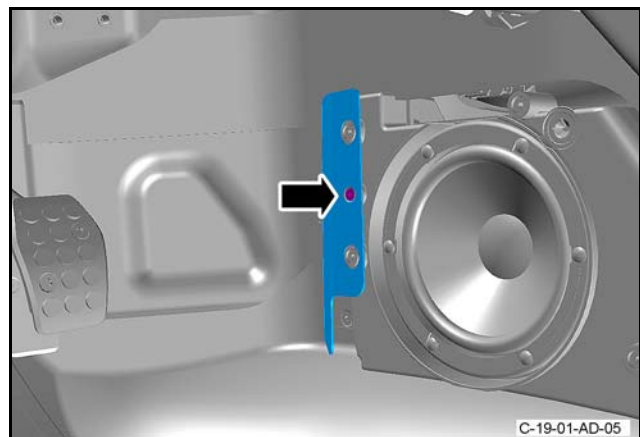

Figure 5
19. Remove the screw that attaches the bracket to the footwell speaker and remove the bracket. (refer to Figure 5).